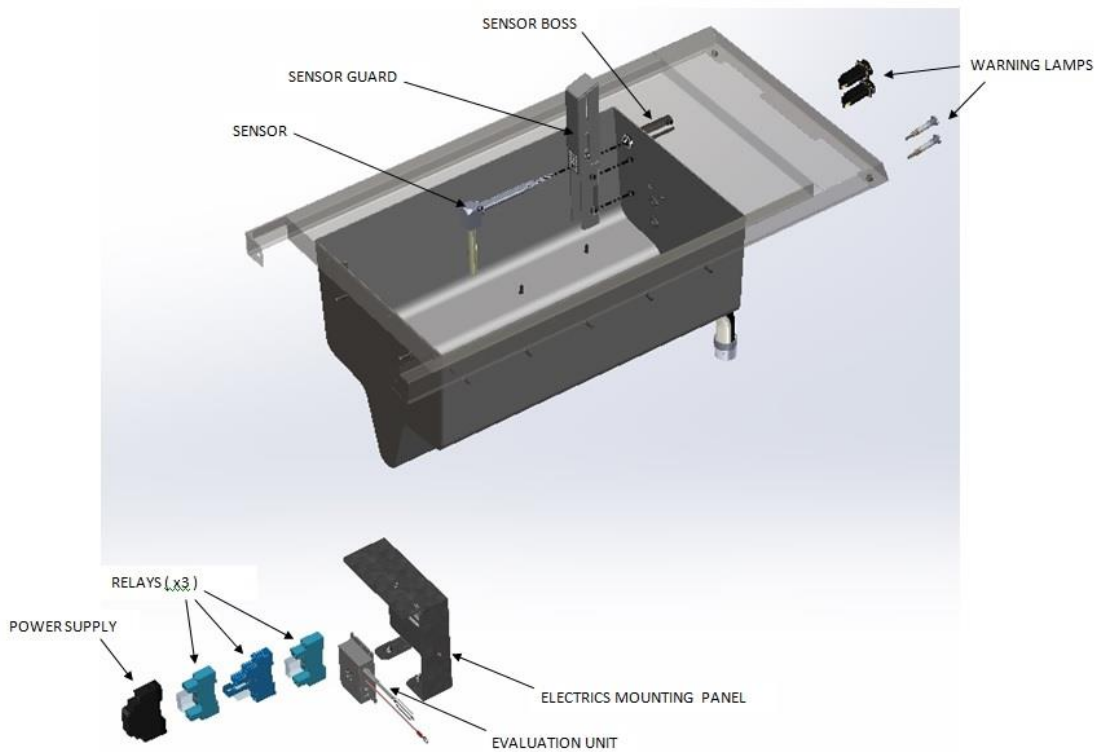

Figure 7 – Oil level sensor circuit components
5.16 OIL LEVEL SENSOR (G3840X/G3840FX/G3840XP/G3840FXP only, Figure 7)
5.17 TOP UP AND LOW OIL LEVEL LEDS (G3840X/G3840FX/G3840XP/G3840FXP only, Figure 7)
5.18 OIL LEVEL SENSOR EVALUATION UNIT (G3840X/G3840FX/G3840XP/G3840FXP only, Figure 7)
5.19 RELAYS & RELAY BASES (G3840X/G3840FX/G3840XP/G3840FXP only, Figure 7)
5.20 POWER SUPPLY UNIT (G3840X/G3840FX/G3840XP/G3840FXP only, Figure 7)